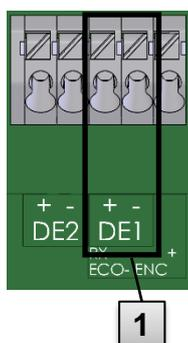

Fig. 9
1. Connect the pulse output of the gas meter to the DE1 terminal (**1** in Fig. 9) of the EK205.
3. Have the temperature sensor sealed using a lead-sealing socket **1** and the wire seal **3** in accordance with Fig. 9 by a calibration officer.